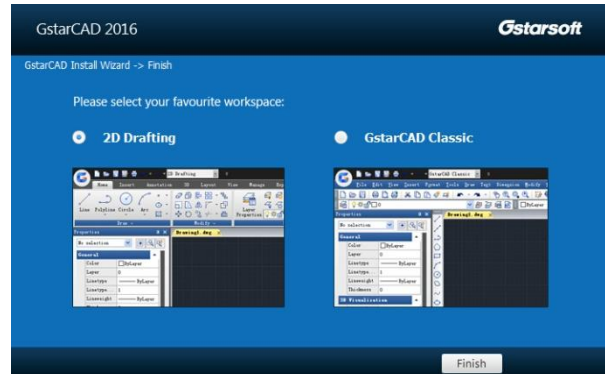

Figure 1-6
6.- Then you will see the workspace selection window. Select your favourite workspace and click the "**Finish**" button to exit the wizard, The GstarCAD wizard has successfully installed GstarCAD 2016. See Figure 1-6.